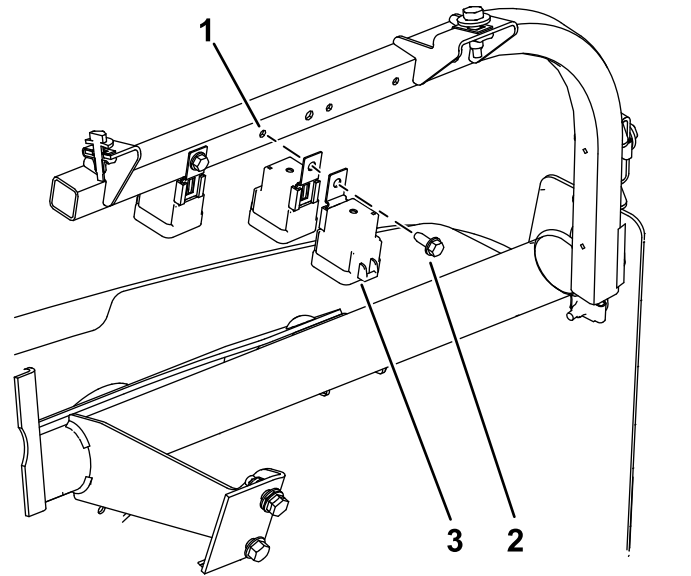

Figure 15
2. Align the 2 relays back-to-back (Figure 15).
3. Secure the 2 relays to the dash-support tube with the bolt (1/4 x 5/8 inch) in the pre-drilled hole on the right (Figure 15).